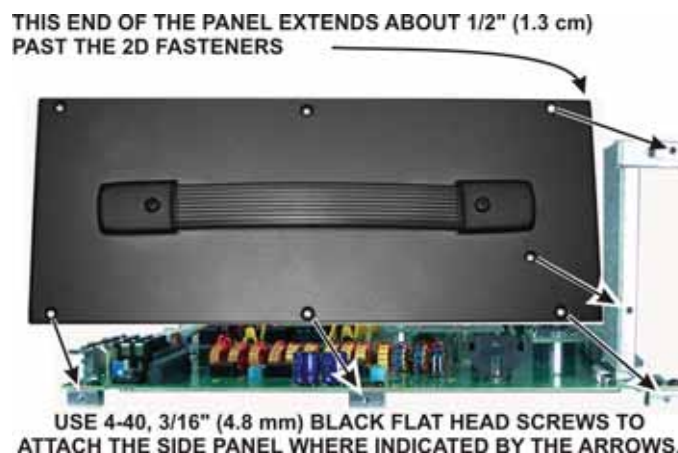
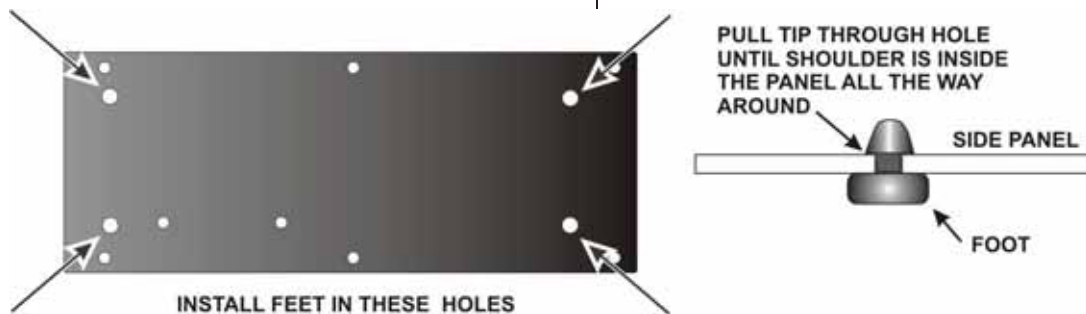

Figure 16. Mounting Left Side Panel.
Figure 21. Installing Side Panel Feet.
Locate the two side panels. They are approximately 4" (10 cm) by 9-7/8" (25 cm) in size. Both panels have six counter-sunk screw holes near the edges. Note that the countersunk holes are farther from one end than the other. This is important. You will need to orient the panels correctly as you install them. The side panels are different as well. In addition to the six counter-sunk screw holes, the left side panel has two holes near the centerline for attaching the handle. The left side panel with the handle attached is shown in Figure 16. The right side panel has six additional holes; four for mounting the side feet and two for attaching other parts inside the K3 (see Figure 21). Set the right side panel aside for now.
Attach the left side panel to the RF board assembly as shown in Figure 16 using five 4-40 3/16" (4.8 mm) black flat head screws. Do **not** use washers. When the panel is oriented correctly, the edge of the panel will extend about 1/2" (13 mm) past the 2D fasteners at the front panel shield. If the threaded holes in the 2D fasteners don't line up properly with the holes in the side panels, temporarily loosen the screws attaching the 2D fastener to the RF board or front panel shield, then tighten them again after the side panel is installed.
□ Install the four rubber side feet in the holes in the right side panel as shown in Figure 21. Two suggested procedures for doing this are as follows: